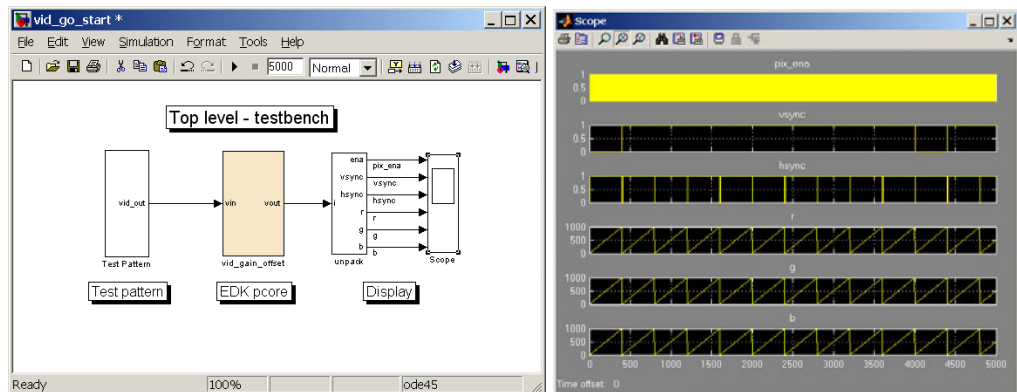

Figure 6-3: vid\_go\_start Simulation Results
- Run the model by clicking on the start simulation button. The user should see the test pattern displayed on the scope as shown in Figure 6-3.